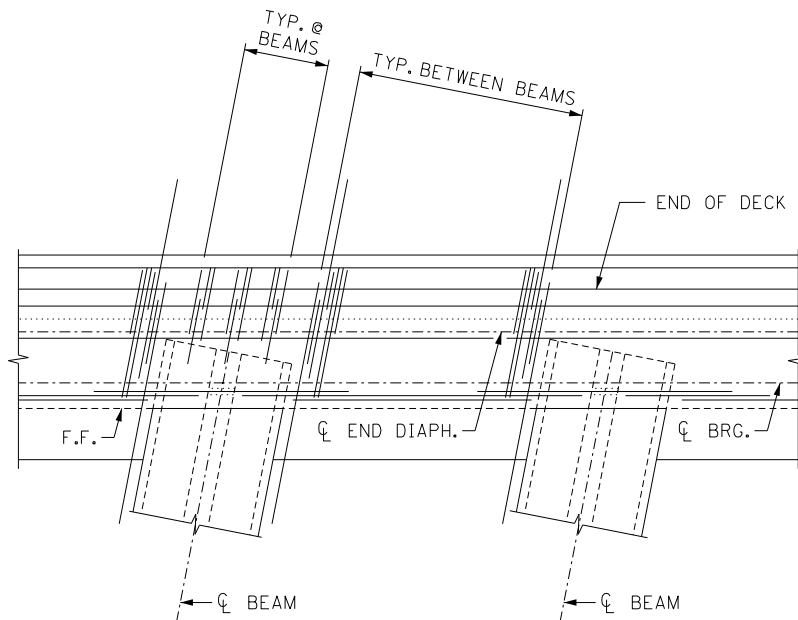

Figure 10
- When detailing concrete end diaphragms for integral, semi-integral, or parapet abutments, place transverse diaphragm bars parallel to the beams. (See Figure 10.)